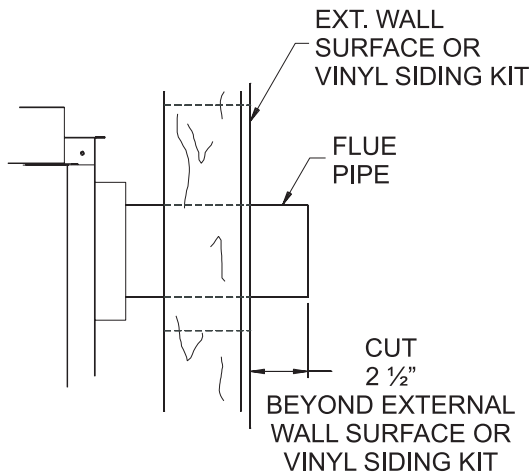

Figure 53
8. Attach the 4" (102 mm) diameter flue outlet tube onto the rigid venting system or directly to fireplace. Ensure the 4" (102 mm) diameter flue outlet tube is placed as far as possible onto the rigid venting system. Mark the 4" (102 mm) diameter flue outlet tube 2 1/2" (64 mm) beyond the vinyl siding kit or wall. See **Figure 53**. Remove the 4" (102 mm) diameter flue outlet tube from rigid venting system. When installing directly to fireplace, tape gasket needs to be used.